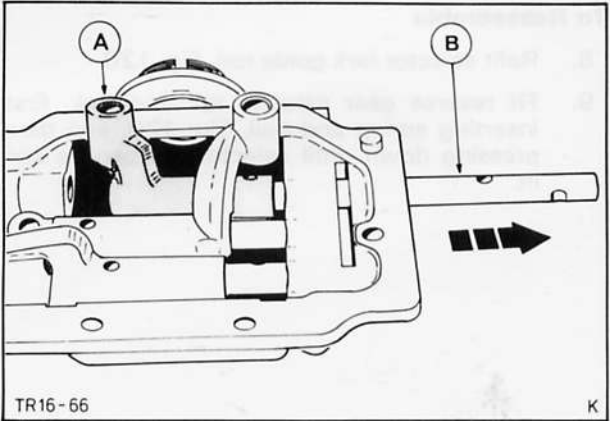

Fig. 117. Remove 1st/2nd gear selector rail
4. Remove 1st/2nd gear selector rail and selector fork carrier, Fig. 117.